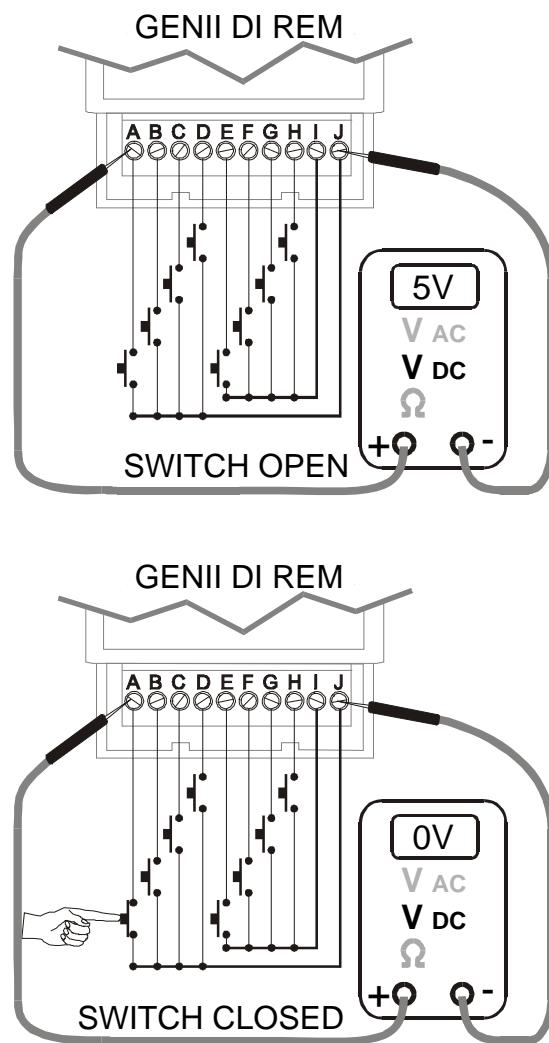

Figure 4-3. Checking Dry Contact Inputs.
**4-1.2.2.2. Internal-Source Digital Inputs.** The GENII DI REM provides eight dry contact (voltage-free) inputs to sense contact closure from field equipment. The eight digital inputs are connected to terminals A through H (see Figure 4-3). Contacts I and J are signal common terminals. The REM provides 5Vdc between each input and common. This voltage is shorted to common when the switch is closed. Check the digital input wiring as follows: